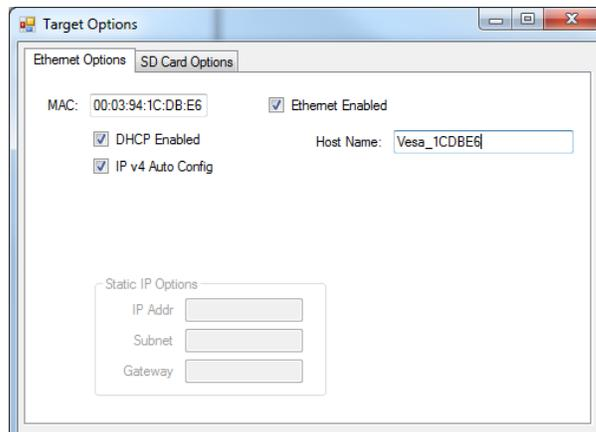

Figure 2-10 - Ethernet Options
8. Click the **TARGET OPTIONS** button. The Target Options window will open. There will be two tabs in this window. Click the **ETHERNET OPTIONS** tab. See Figure 2-10.